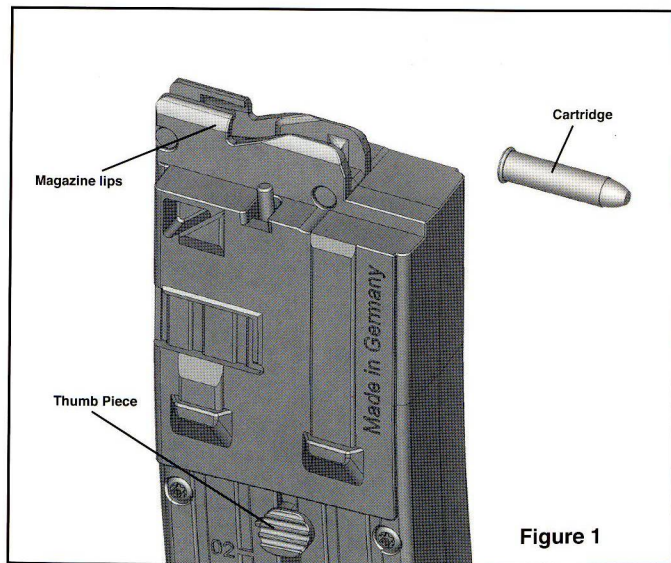

Figure 1
1. Put the cartridge on the follower, near the magazine feed lips. (Figure 1 page 13)